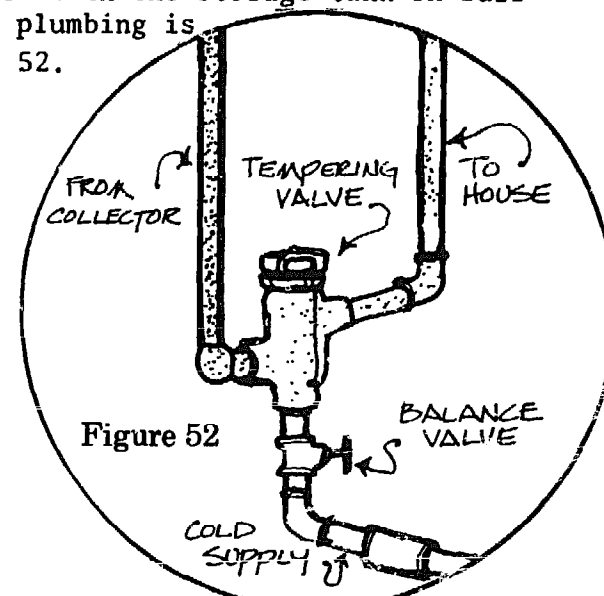

Figure 52
2) Direct Use System: If solar hot water is used directly, you will still need to make provisions for shutting off the water supply to the collector system. It is also essential that a tempering valve such as a Watts 70 A be put in to avoid scalds from overheated water (temperatures as high as 180° F can occur in the storage tank on full sun days). The plumbing is shown in figure 52.
The balance valve shown in the sketch (Fig. 52) is used to match cold supply pressure to the pressure from the collector, which will be lower due to a pressure drop through the solar system.